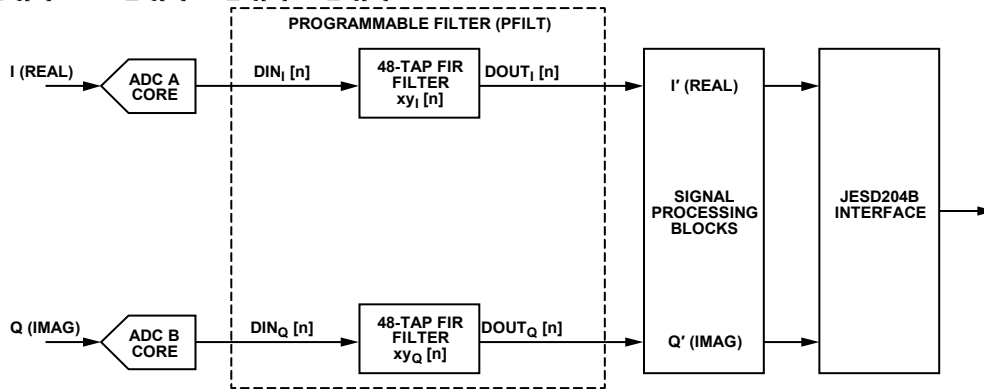

Figure 104. Real 48-Tap Filter Configuration
- Real 48-tap filter for each I/Q channel (see Figure 104)